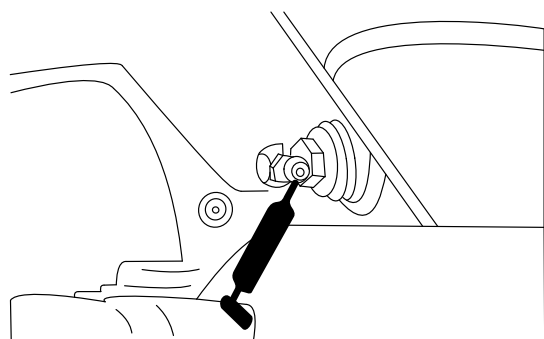

Figure 50
- Rear axle pivot (Figure 50).